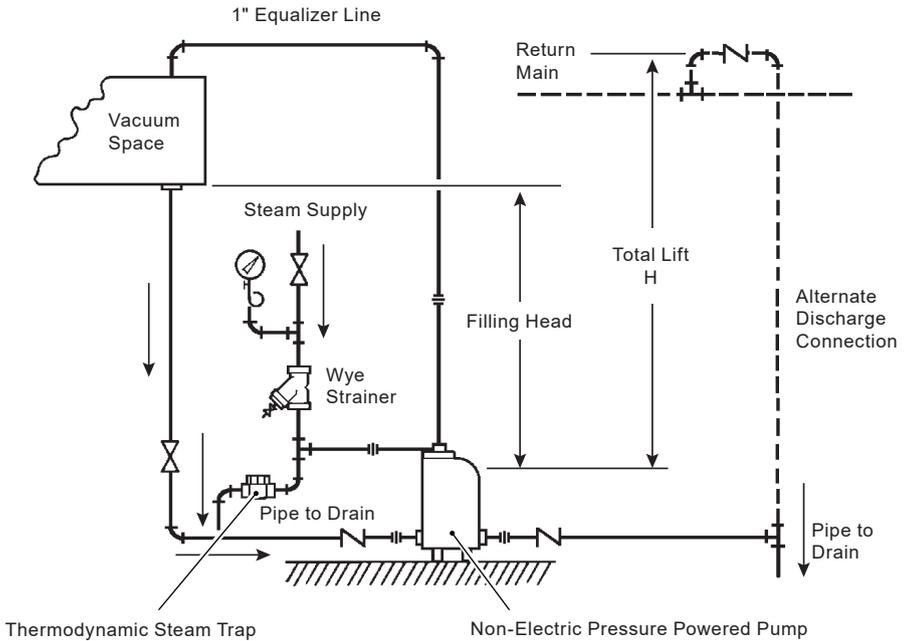

Fig. 15 - Draining Condensate from Vacuum Space to Return Main
*See piping in Figure 15. Trap should discharge into vented receiver.
* See piping Figure 15 Trap should discharge into vented receiver.